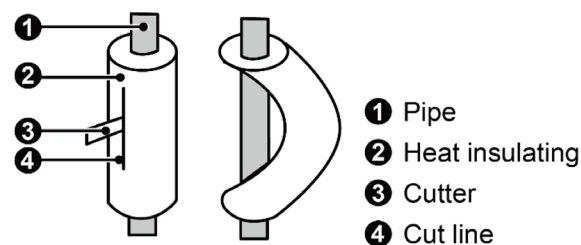

Figure 4.4b
4. When bending the pipe, excessively bending the pipe will cause it to break. As shown in Figure 4.4b, use a sharp tool to cut the heat insulating layer around the pipe and bend it once the pipe is exposed. After bending, place the heat insulating layer back on the pipeline and secure it with adhesive tape.